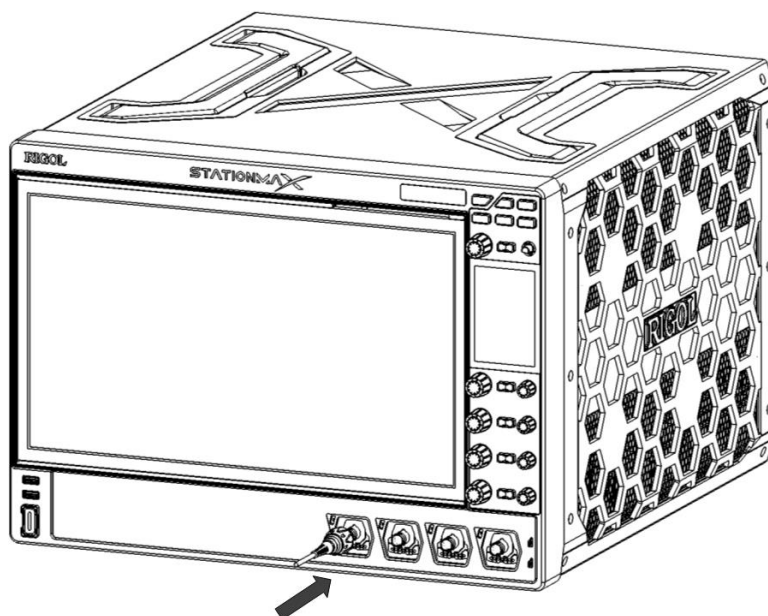

Figure 4.4 To Connect the Passive Probe
- 1 Connect the BNC terminal of the probe to an analog channel input terminal of the oscilloscope on the front panel as shown in *Figure 4.4*.